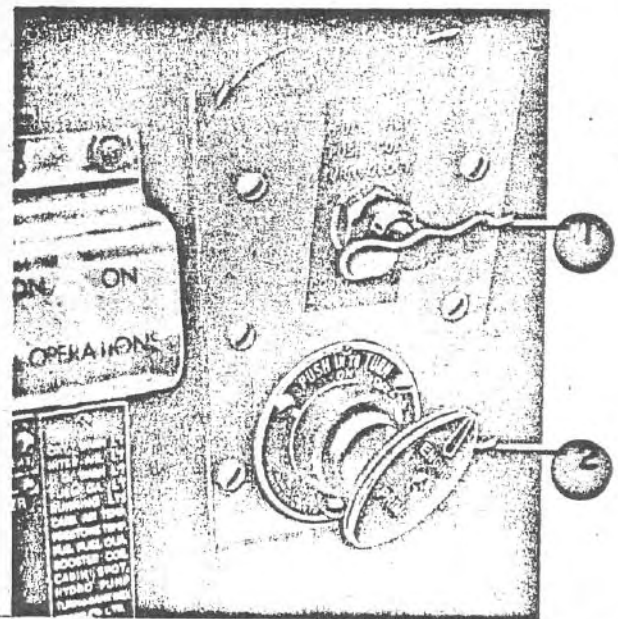

Figure 34—Engine Primer and Cockpit Heat Control
p. Close and lock the primer. (Figure 34)
e. Adjust the cockpit heating and ventilator control as desired (figure 34).
i. Adjust the cockpit heating and ventilating control (figure 34) to the desired setting. Pull for "Heat" and push for "Cold". Closing the cowl flaps will increase the temperature of the heat entering the cockpit.